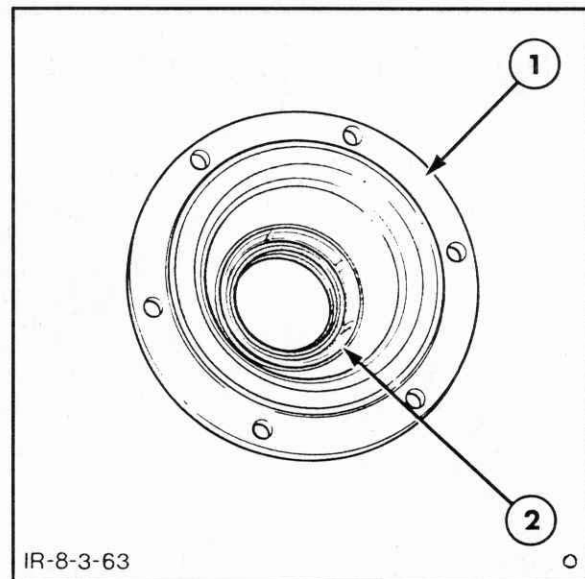

Figure 7-126
10. Remove and replace the oil seal in the pinion oil seal housing, Figure 7-126.